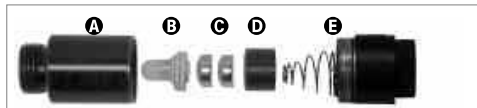

Fig. 13b: Reticle LED assembly: (A) Reticle Container; (B) LED; (C) Batteries; (D) Battery Holder; (E) Cap.
13. **Remove Plastic Strip from Reticle LED:** The polar alignment reticle LED (30, Fig. 1d) contains two watch batteries. The reticle's LED is shipped with a plastic strip between the two batteries to protect battery life. Unthread both the cap (E). Remove the plastic strip before using. Refer to the reticle assembly in Fig. 13b and note the orientation of the batteries. Place the batteries (C) into the battery holder (D) before inserting into the reticle container (A).